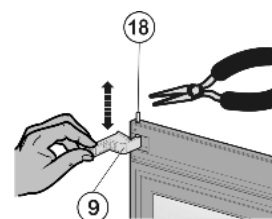

Fig. 11
- ▶ To raise the bearing pin Fig. 11 (18): Move turn hinge Fig. 11 (9) up and down.
- ▶ Using pliers, pull out the bearing pin Fig. 11 (18) and set it aside.